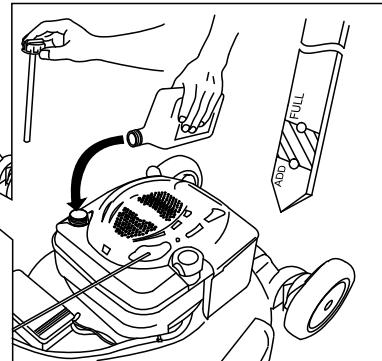

Figure 11
1. Remove the dipstick, wipe it clean, and fully install the dipstick (Figure 11).
2. Remove the dipstick and check the oil level (Figure 11). If the oil level is below the Add mark on the dipstick, slowly pour oil into the oil fill tube to raise the oil level to the Full mark on the dipstick. **Do not overfill.** (Max. fill: 20 oz. (0.59 l), type: SAE 30W detergent oil with an API service classification of SF, SG, SH, SJ, SL, or higher.)